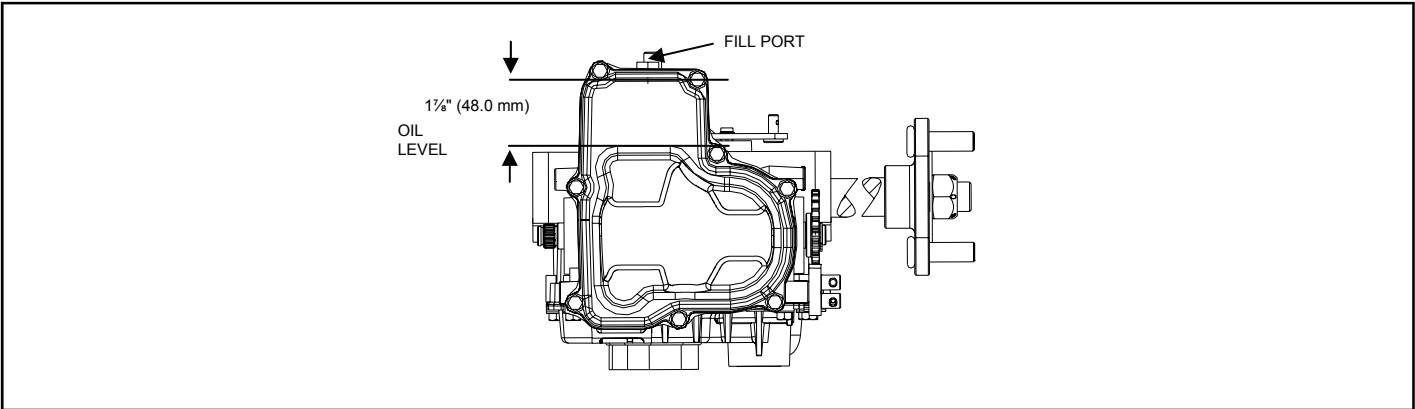

Figure 4. 310-2400/2600 Fluid Level and Fill Port
2. Check oil level and quality in accordance with Figure 4 Page 12.
Certain situations may require additional fluid to be added or even replaced. Refer to Figure 4 for the proper fill port location.
Before starting, make sure the transaxle/transmission is at the proper oil level. If it is not, fill to the specifications outlined on page 12, Figure 4.